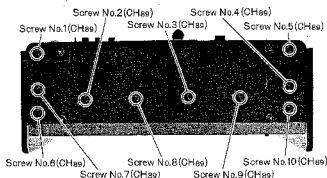

Fig. 10
11. Remove the ten (10) chassis screws (nos. 1~10), as shown in fig. 10.